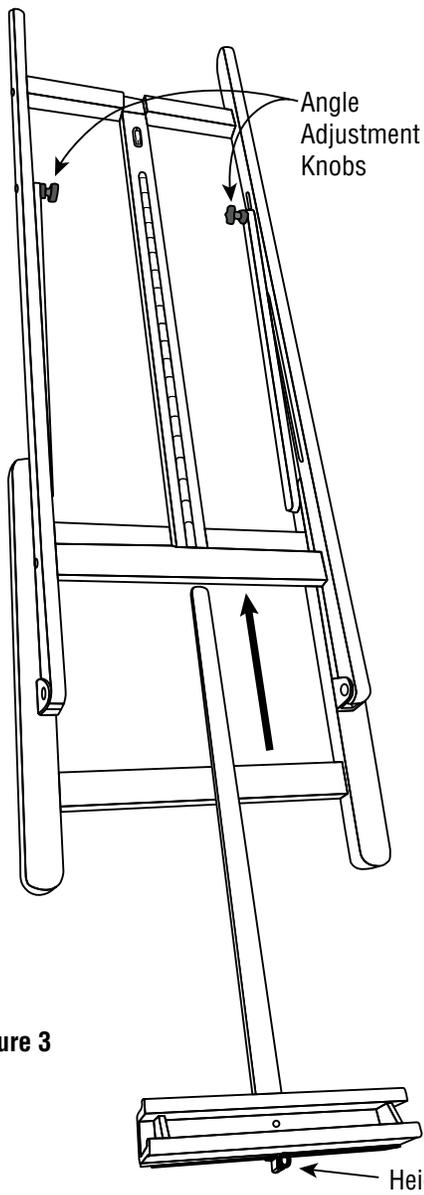

Figure 3
- 4** Carefully slide canvas support assembly from below into slots and tracks in main frame, as shown in Figure 3. Pull spring-loaded height-adjustment ring and set in the third track position for the time being.